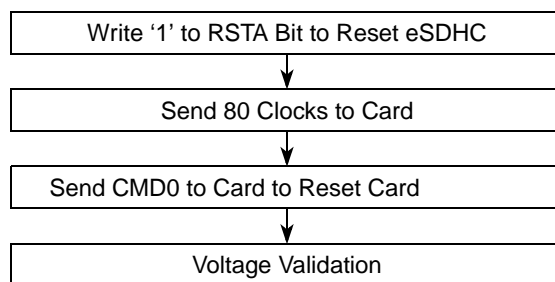

Figure 16-26. Flow Chart for Reset of eSDHC
16.6.2.2, 16-46 In Figure 16-26, “Flow Chart for Reset of eSDHC”, update the caption to “Flow Chart for Reset of eSDHC” and replace with the following figure: